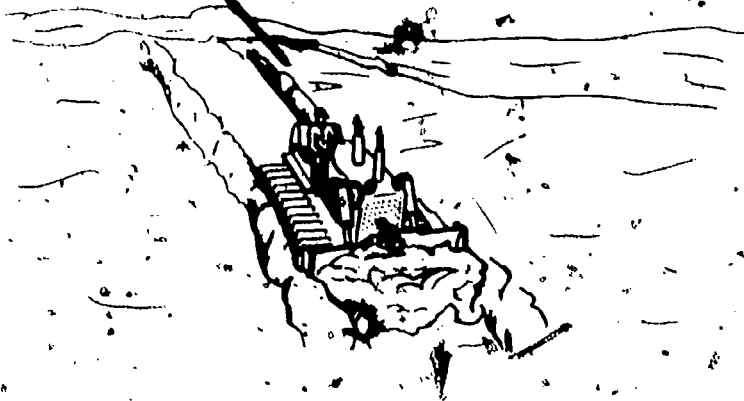

Fig 4-23. Slot dozing.
c. Slot dozing. In slot dozing (fig 4-23) the dozer makes several passes in the same tracks which builds up a pair of windrows. These windrows form a trench, preventing spillage around the ends of the dozer blade. Cut sections, where possible, should be "slotted" alternately, leaving narrow uncut sections between slots. The narrow uncut sections can then be removed by normal dozing.